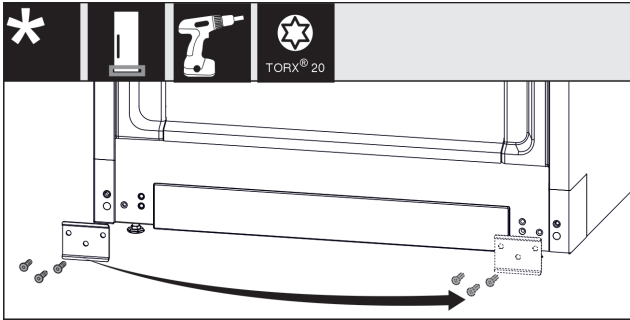

Fig. 12
- ▶ Unscrew the metal plate, move it to the other side and screw it on again. *Fig. 12 (1)*
- ▶ Put back the cover on the other side. (1)